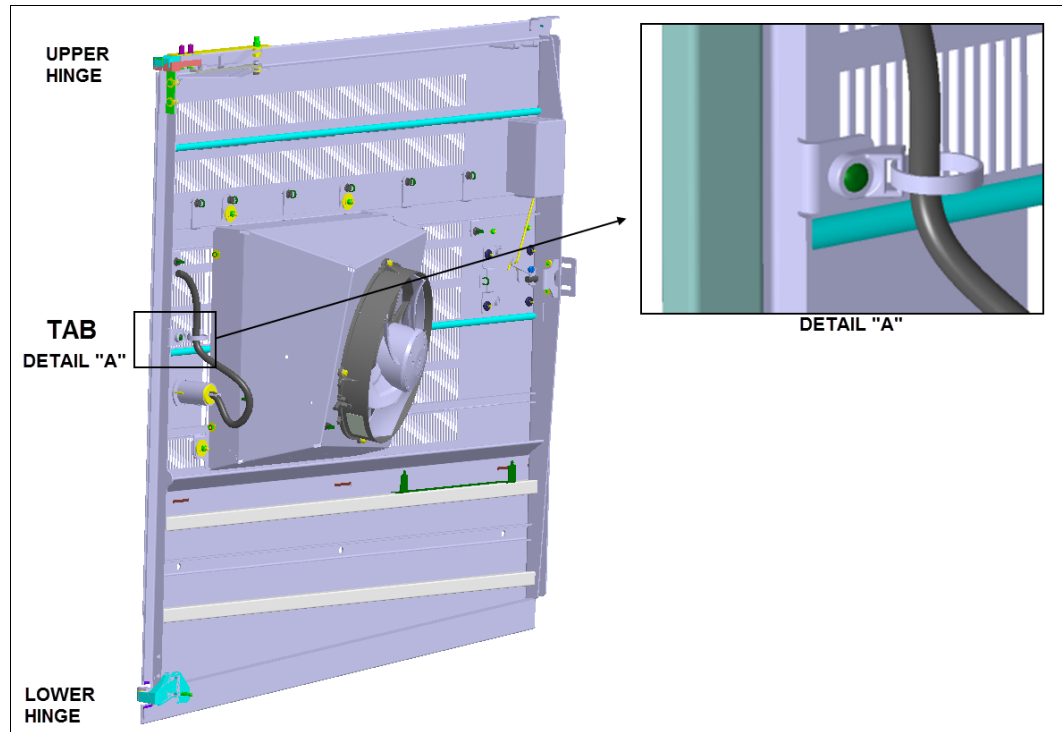

FIG.23 DOOR FRAME PART TO ADD REINFORCEMENT
- 3) Locate the tab holding the electric cable pass through (mid-part of door frame Fig.23).